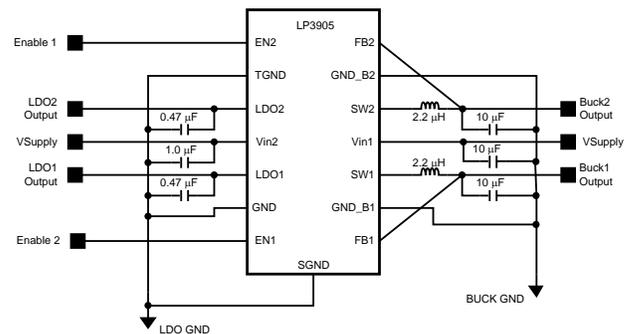

Figure 1. Typical Application Circuit
Limits in standard typeface are for  $T_J = 25^\circ\text{C}$ . Limits in **boldface** type apply over the full junction temperature range ( $-40^\circ\text{C} \leq T_J \leq +125^\circ\text{C}$ ). Unless otherwise noted, specifications apply to the LP3905 Typical Application Circuit (Figure 1)
Limits in standard typeface are for  $T_J = 25^\circ\text{C}$ . Limits in **boldface** type apply over the full junction temperature range ( $-40^\circ\text{C} \leq T_J \leq +125^\circ\text{C}$ ). Unless otherwise noted, specifications apply to the LP3905 Typical Application Circuit (Figure 1)(1)(2)(4)
The linear regulators have a current rating of  $I_{max} = 150\text{mA}$  with  $C_{OUT} = 1.0\mu\text{F}$ . A 100mA rating applies with  $C_{OUT} = 0.47\mu\text{F}$ . Unless otherwise specified, limits are set with  $V_{IN} = 3.8\text{V}$ ,  $V_{EN1/2} = 3.8\text{V}$ ,  $C_{IN} = 1\mu\text{F}$ ,  $C_{OUT} = 0.47\mu\text{F}$ ,  $I_{OUT} = 1.0\text{mA}$ . Limits in standard typeface are for  $T_J = 25^\circ\text{C}$ . Limits in **boldface** type apply over the full junction temperature range ( $-40^\circ\text{C} \leq T_J \leq +125^\circ\text{C}$ ). Unless otherwise noted, specifications apply to the LP3905 Typical Application Circuit (Figure 1)(1)(2)(4)